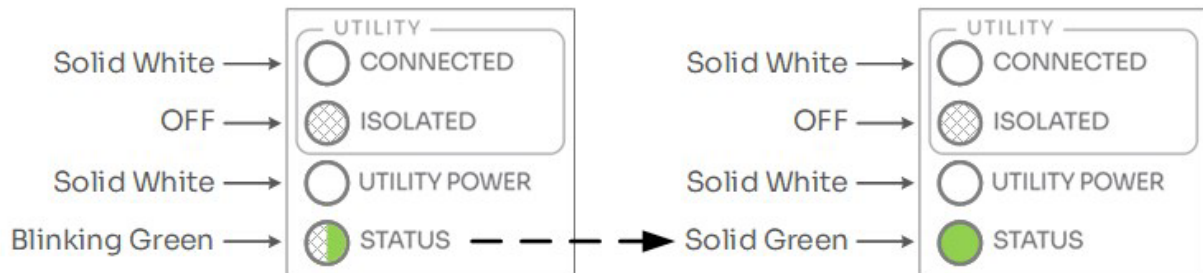

Figure 35. Normal Startup LED Status.
16. Check the LED status on opposite end of the Connection Module from the Communications Cable. Confirm the 'Utility Connected' white light is on, and the 'Status' LED is solid green after blinking a few minutes. See Figure 35.